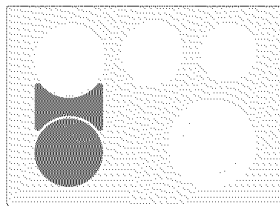

Fig. 6
2. Push in & turn the Bridge Element control knob counterclockwise (See Figs. 5 & 7) to heat the portion of the Bridge element for normal shaped cookware or clockwise (See Figs. 6 & 8) for larger or rectangular shaped cookware.